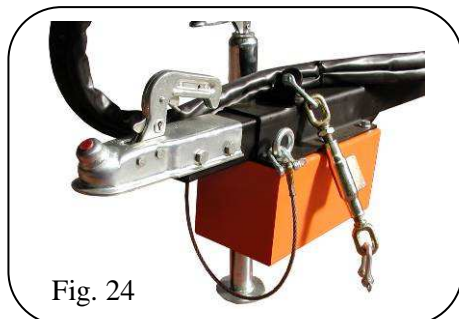

Fig. 24
- Attach the tow bar to your car or road vehicle, then block the bar with the key or pin and the safety cable provided (Fig. 24).